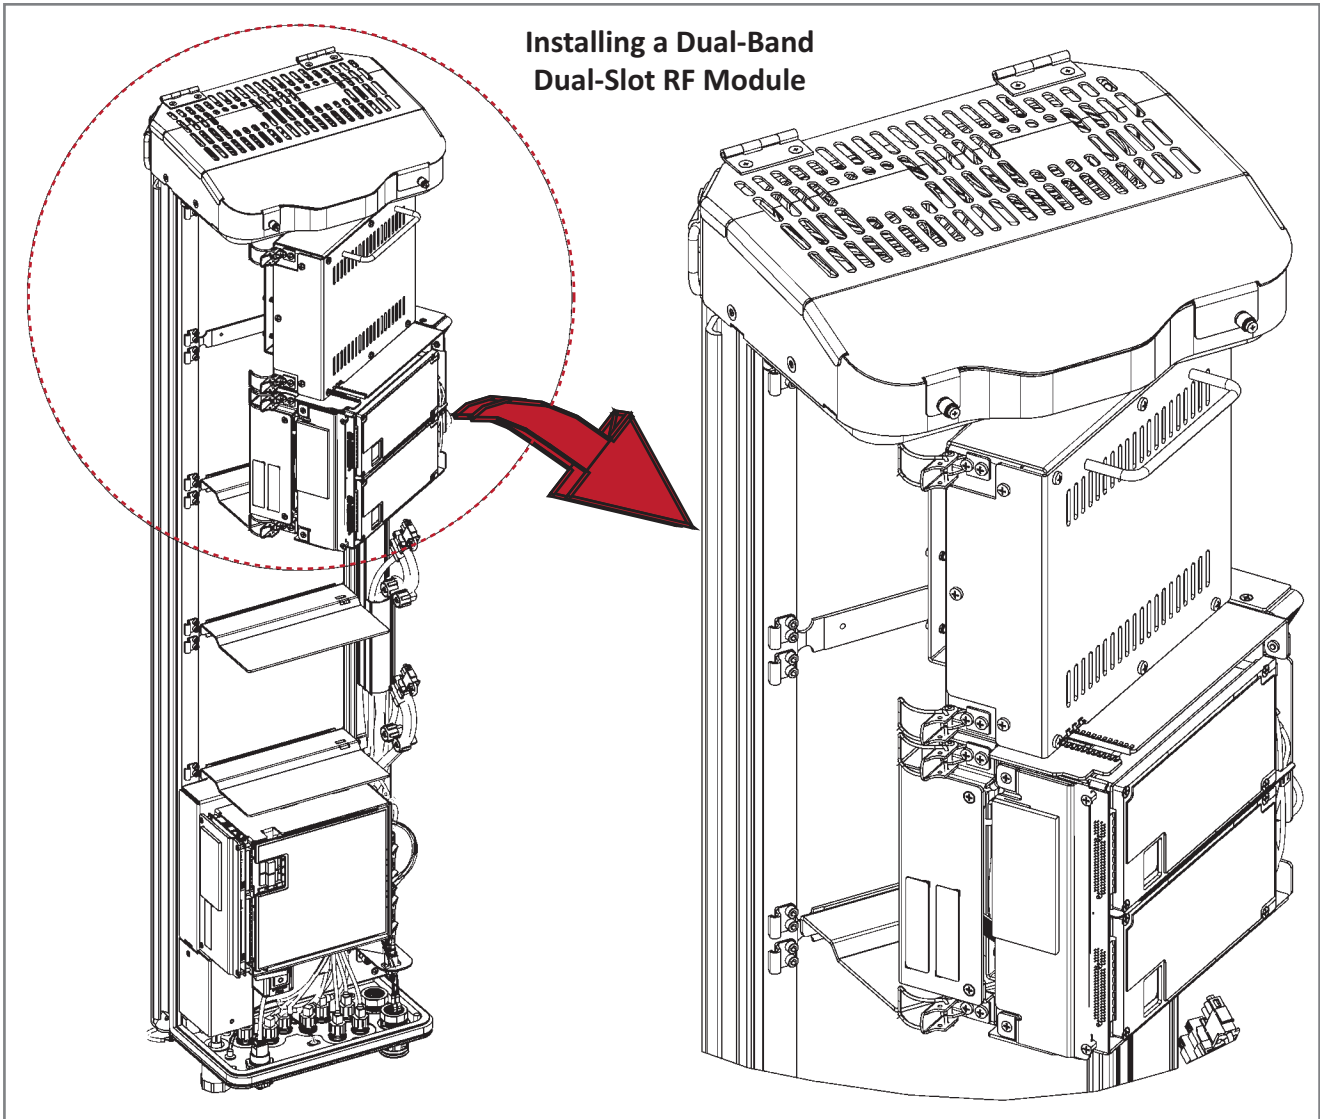

Figure 23. Installing a Dual-Bay RF Module
- Dual-Bay RF Module: Figure 23 on page 93